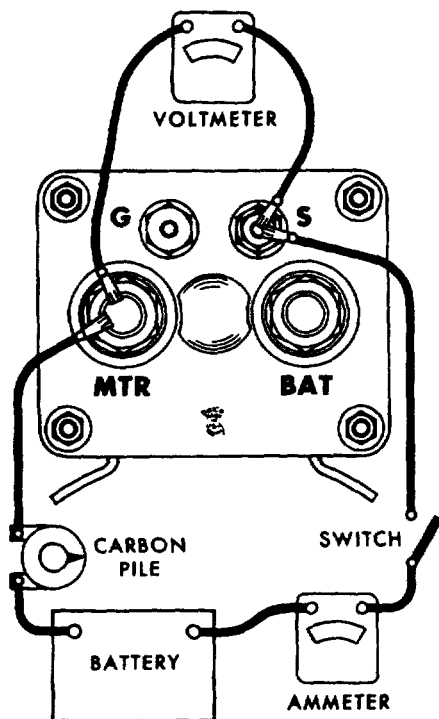

Fig. 6 - Checking Solenoid Pull-In Winding.
The hold-in voltage should be 10 volts and the hold-in current 13-15.4 amperes. Use the carbon pile to decrease the battery voltage to 10 volts and compare the ammeter reading with specifications. A high reading indicates a shorted hold-in winding, and a low reading excessive resistance. To check the pull-in winding connect from the solenoid switch terminal (S) to the solenoid motor (M or MTR) terminal (Fig. 6).